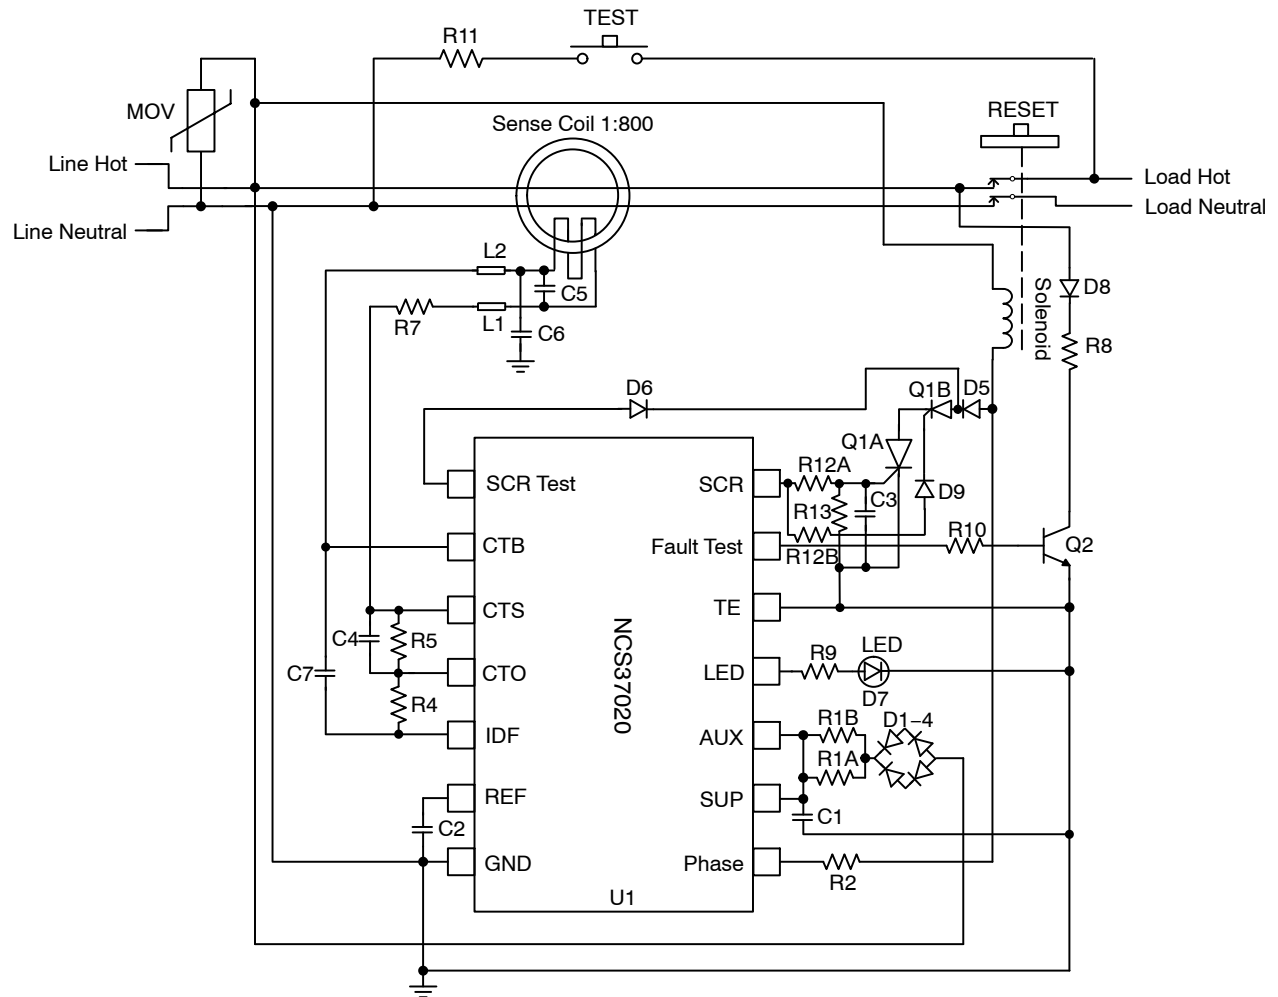
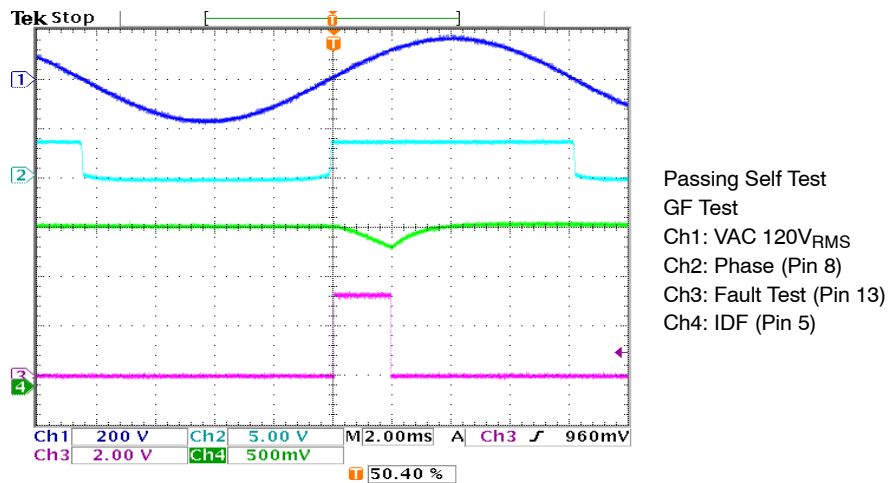
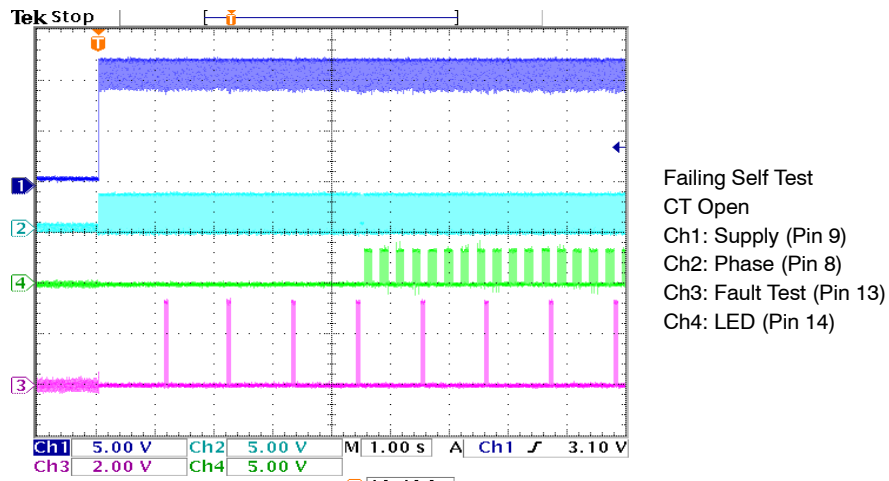
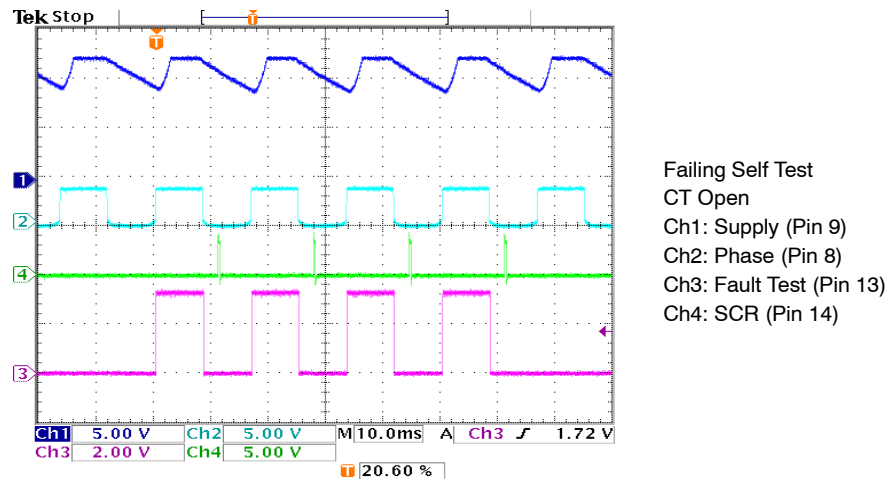

Figure 2. ALCI Application Diagram\*
Figure 4. Passing Self Test – GF
Figure 6. Failing Self Test – CT Open
Figure 7. Failing Self Test – CT Open
**Table 4. OPERATING RANGES** (Unless otherwise noted, ISUP = 3 mA, Phase input = 60 Hz, Refer to Figure 2)
## Functional Description (refer to application circuit, Figure 2)
The internal shunt regulator clamps the SUP pin voltage at 12 volts. This provides the bias voltage for the analog and digital internal circuitry via two 3.3 V linear regulators. The NCS37020 controller can be biased full wave or half wave. Figure 2 shows a half wave bias application. Half wave bias allows for lower wattage bias resistors (R1A and R1B) and less redundant bias diodes. The D1–4 diodes are biased so that only during the positive half cycle the capacitor C1 will be charged to 12 volts. During the negative half cycle, C1 will supply the bias current for the NCS37020. To minimize the NCS37020 bias current during the negative half cycle, the SCR and LED outputs will only be enabled during the positive half cycle. The D1–4 diodes and R1A–R1B resistors include redundant components to pass the UL943B standard.
The first self-test (ST) cycle will occur at one second and thereafter every 12 minutes. During the ST cycle, the Fault Test pin will be enabled during the positive half cycle and the CT current (set at 12 mA, R8) will be verified. During the next negative half cycle, the SCR’s anode voltage will be pre-biased by the SCR Test pin to 3.3 volts. The SCR will then be enabled and the SCR’s anode voltage will be monitored by the SCR Test pin. If the anode voltage goes below 2.1 volts, the SCR will be disabled after a 400  $\mu$ s verification check and the ST logic will register a passing ST cycle. Figure 2 shows two SCRs in series. A redundant SCR is required during the SCR anode to cathode short test to prevent the solenoid from burn out damage. The SCR self-test cycle will fail if either SCR Q1A or Q1B are open. If either Q1A or Q1B are shorted (anode to cathode) the ST cycle will pass, however, the GF function will also function correctly. The next ST cycle will occur in 12 minutes. Note that when the SCR is enabled, the blocking diode D5 will prevent the solenoid from being energized and opening the load contacts. If either the GF (ground fault) or SCR self-test cycles fail, these self-test cycles will be repeated for up to three more consecutive cycles. If any consecutive GF and SCR tests pass, the ST logic will register a passing self-test cycle. If all four ST consecutive cycles fail, a ST cycle will be repeated at 2, 3 and 4 seconds for a total of 16 self-test cycles. If all 16 ST cycles fail, a ST EOL fault will occur. The SCR will be enabled for four consecutive positive half cycles, then the LED will blink at 4 Hz. The LED will only be biased during the positive AC half wave cycle. The SCR will be enabled for one positive half cycle every 4.5 seconds. A self-test cycle will occur every second. If a self-test cycle passes, the ST EOL logic will be reset (power on reset state). If a ground fault is detected during a ST EOL state, the EOL logic will be reset. This allows for resetting the ST EOL state by pressing the manual test button when the load contacts are closed.
Figure 4 shows a passing self-test ground fault test. This test checks for the CT and bias circuitry. Channel 1 shows the VAC 120  $V_{RMS}$ , 60 Hz Line Voltage. Channel 2 shows the positive and negative phase half wave cycles. Channel 3 shows the Fault Test signal and channel 4 shows the IDF signal (CTO output). The self-test cycle starts in the positive half wave cycle. The Fault Test pin goes high and Q2 (Figure 2) is enabled. Enabling Q2 generates a GF signal via R8. The IDF signal is the CTO amplifier output which is a GF current to voltage signal per the equation on the previous page. When a 5 to 15 mA GF signal is detected, a “passing GF test” is recorded and the Fault Test signal is disabled.
After a passing self-test cycle per Figures 4 and 5, the next ST cycle will occur in 720 seconds.
Figure 6 shows a failing ST cycle for an open CT. Channel 1 shows the NCS37020 supply voltage. Channel 2 shows the phase pin. Channel 3 shows the Fault Test signal and channel 4 shows the LED (End of Life) signal. The first four consecutive ST cycles occur at about 1.1 seconds, then at 2.2, 3.3 and 4.4 seconds. After the 16th consecutive cycle failure, the SCR is enabled for four positive half cycles and then the LED is enabled.
Figure 7 also shows a failing ST cycle for an open CT. It is a zoom figure for the first four consecutive ST cycles. It shows the same waveforms as Figure 6 but channel 4 shows the SCR pin. Comparing Figure 7 with Figure 4, it can be observed that the Fault Test pin is enabled for the complete positive half wave cycle because no GF signal is detected by the NCS37020.